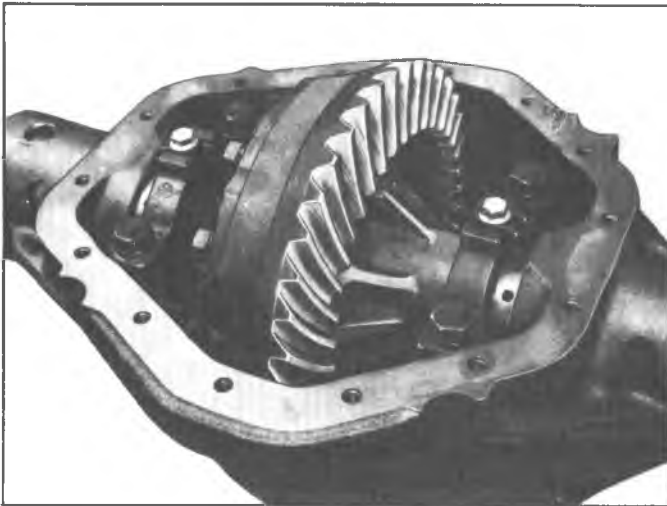

Fig. 2E—Cover Removed from Carrier
2. Remove cover bolts and cover, as seen in figure 2E, and allow lubricant to drain into pan.